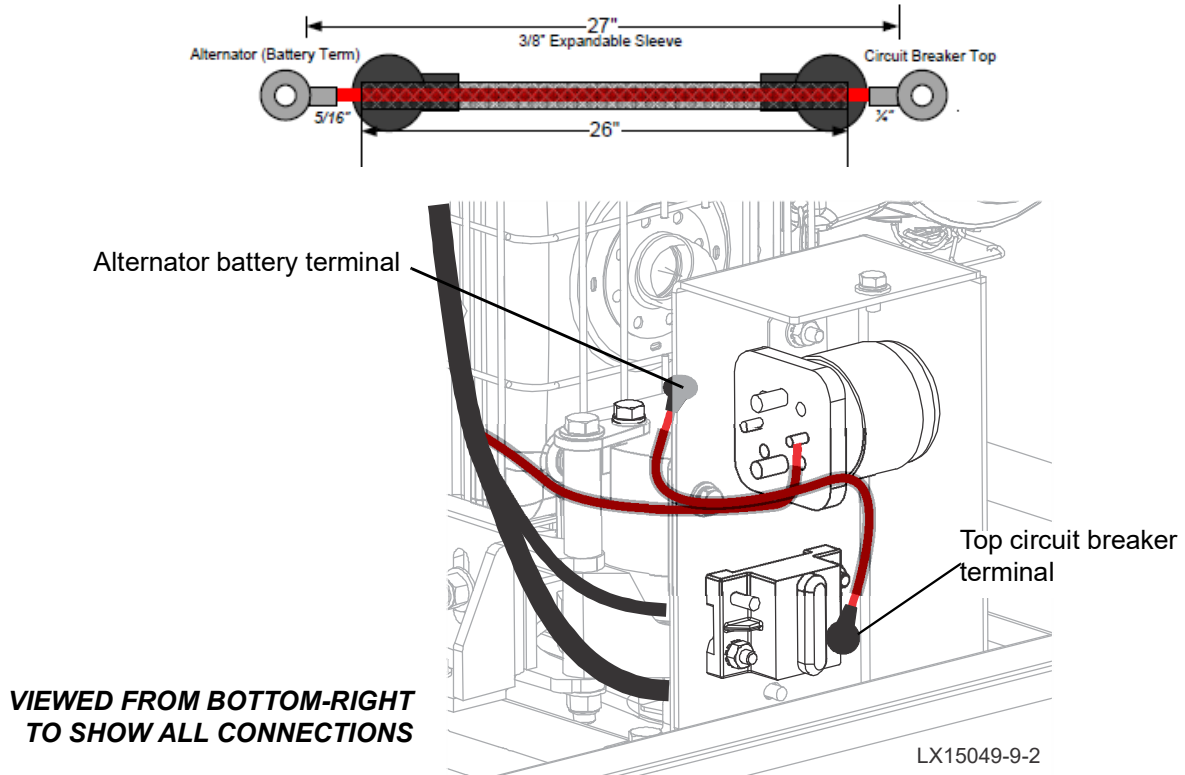

FIG. 1-11
4. Connect the red 27" wire between the alternator battery terminal and the top breaker terminal. See Fig. 1-11.